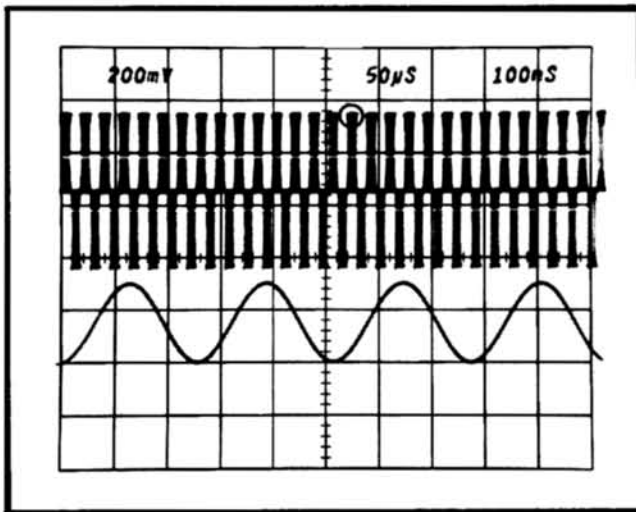

Fig. 2-14. Displaying a complex signal using delayed sweep.
**Example.** Fig. 2-14 shows a complex waveform as displayed on the CRT. The intensified portion of the waveform cannot be viewed in any greater detail because the sweep is triggered by the larger amplitude pulses at the start of the display and a faster sweep rate moves this area of the waveform off the viewing area. The second waveform shows the area of interest magnified 500 times using Delayed Sweep. The DELAY-TIME MULTIPLIER dial has been adjusted so the delayed sweep starts just before the area of interest.